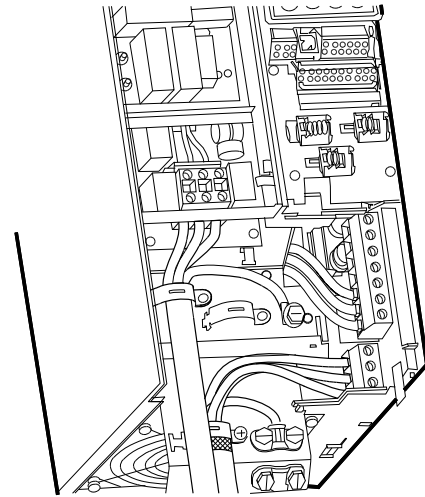

Fig. 16 Mains and motor connection, B3
1. Connect the earth conductor to terminal 95 (PE). See figures 16 and 17.
1. Connect the earth conductor to terminal 99 (PE). See figures 16 and 17.
2. Connect the motor conductors to terminals 96 (U), 97 (V), 98 (W).